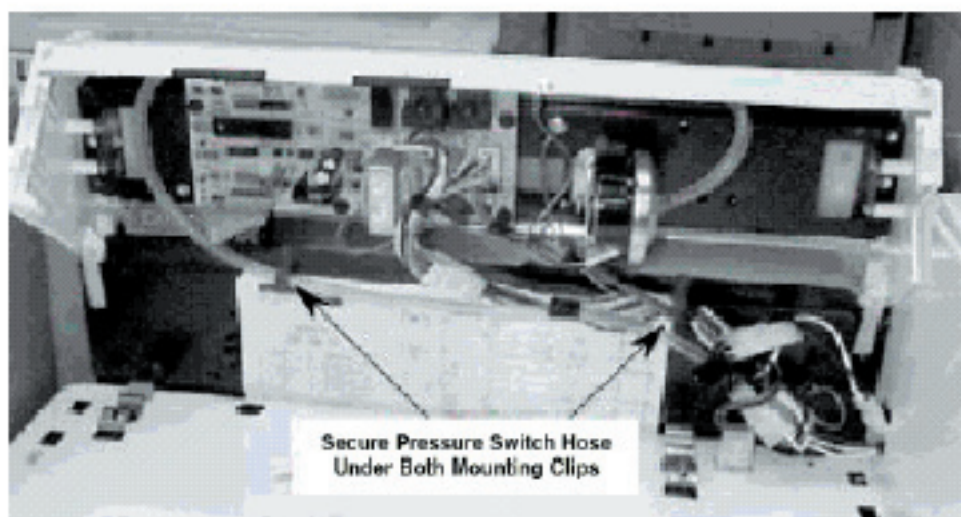

Fig. 4-7
6. Inspect the routing of the pressure switch hose on models with the pressure switch in the console. (Fig. 4-7) Make sure that all of the hose brackets are in place to prevent the hose from kinking.